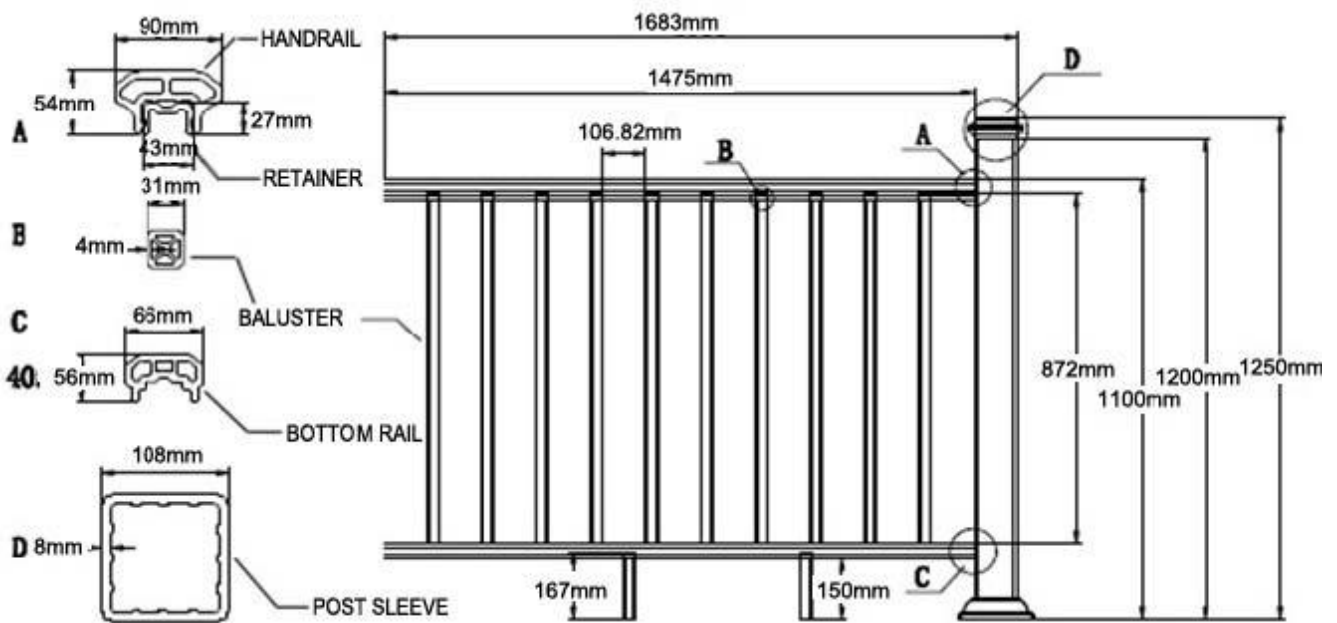

FIGURE 5
1. Drill holes first on the bottom rail as per spacing between balusters which should be taken in 90-110mm using the 4mm drill bit. As shown in Figure 5.